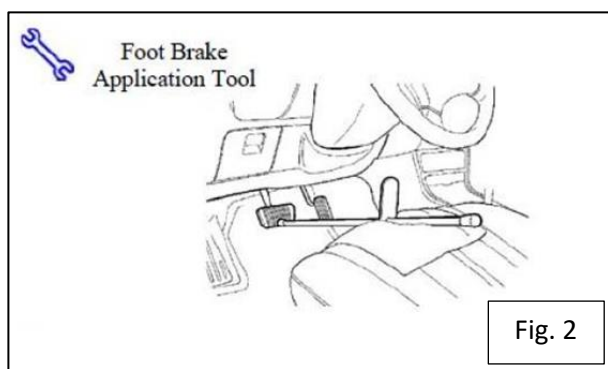

Fig. 2
3) Add seat protection (blanket) and apply foot brake using brake application tool. Figure 2.